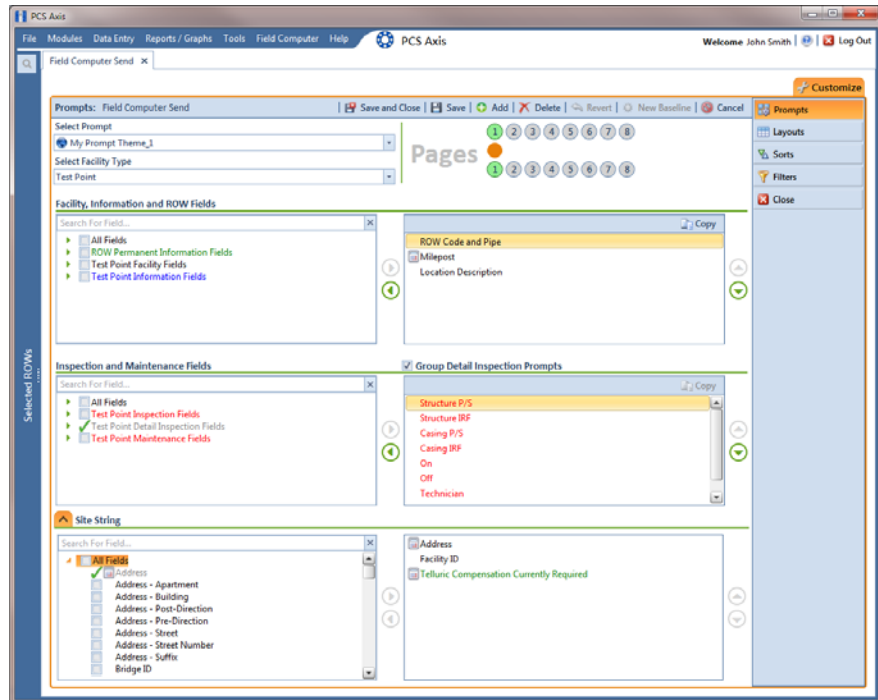

Figure 13-33. Site String
- a Click the  **Site String** tab to open the *Site String* pane (Figure 13-33, page 588).